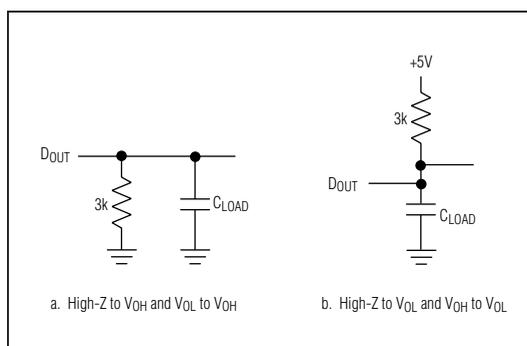

図2. イネーブル時間の負荷回路
**Note 12:**  $t_{DO}$  and  $t_{DO1}$  are measured with the load circuits of Figure 2 and defined as the time required for an output to cross 0.8V or 2.4V.